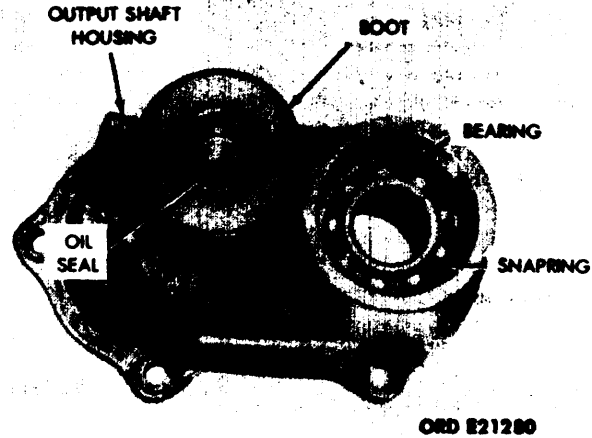

Figure 5-25. Removal of Rear Output Shaft Bearing and Shifter Shaft Boot and Oil Seal.
(2) Using a suitable tool, drive the shifter shaft oil seal and boot from the housing. (See fig. 5-25.)
(1) Using a pair of snapping pliers, remove the bottom and top snaprings securing the rear output shaft bearing in the housing and remove the bearing. (See fig. 5-25.)
- a. Rear output shaft bearing and shifter shaft boot and oil seal. (See fig. 5-25.)